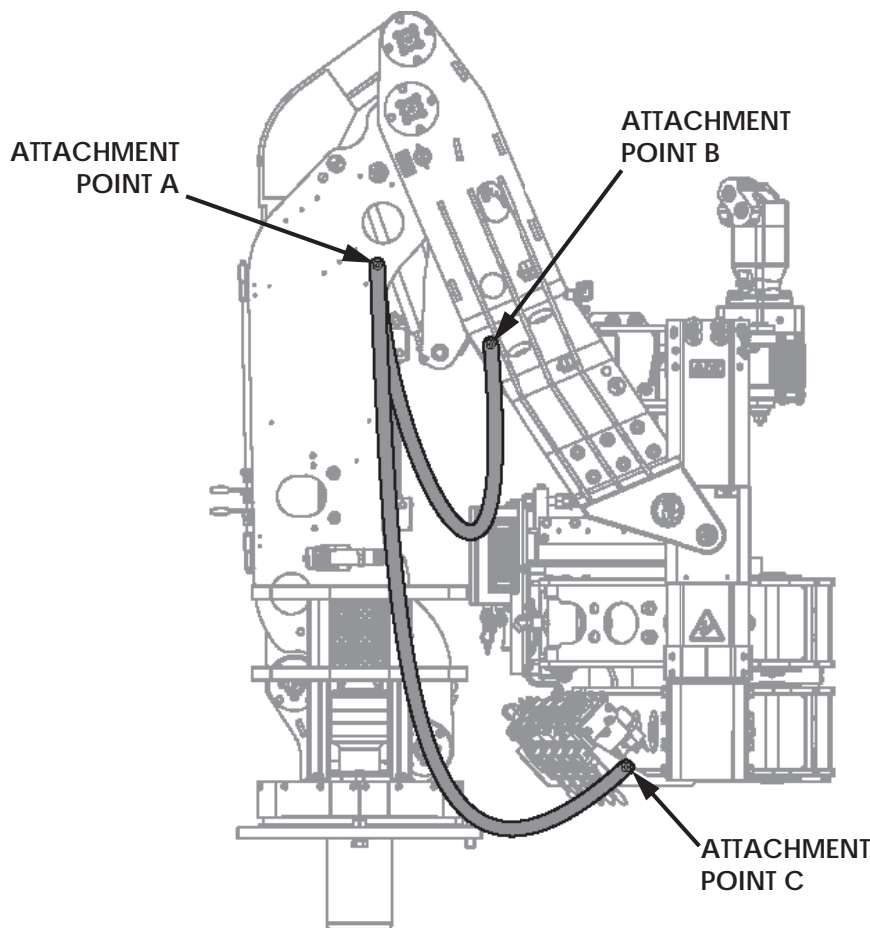

Figure 6: Barriers Attached to Right Side of the Wrench
3. Attach the other end of the long barrier to Attachment Point "C" as shown on Figure 6 and attach in the manner described above.